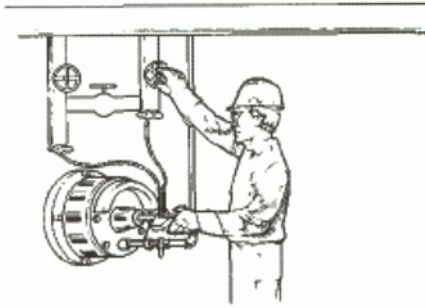

Figure 45 Before lighting the gas, shut off steam to the oil portion of a combination burner, and pull the movable oil gun out.
2. Shut off steam to the combination burner to be lighted, and pull the movable oil gun back, as shown in Figure 45. On single-burner furnaces, be sure the firebox is warm enough to create a draught before you shut off steam.